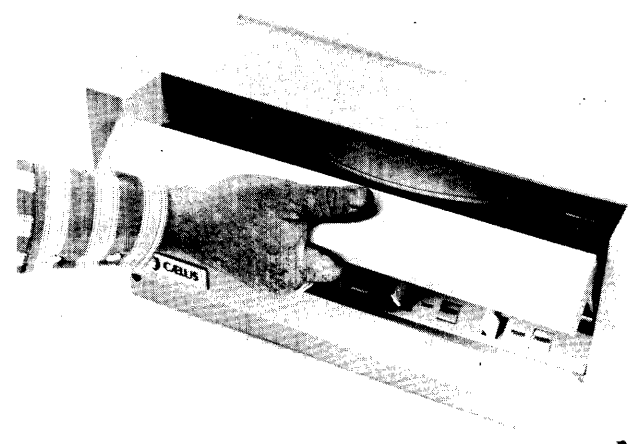
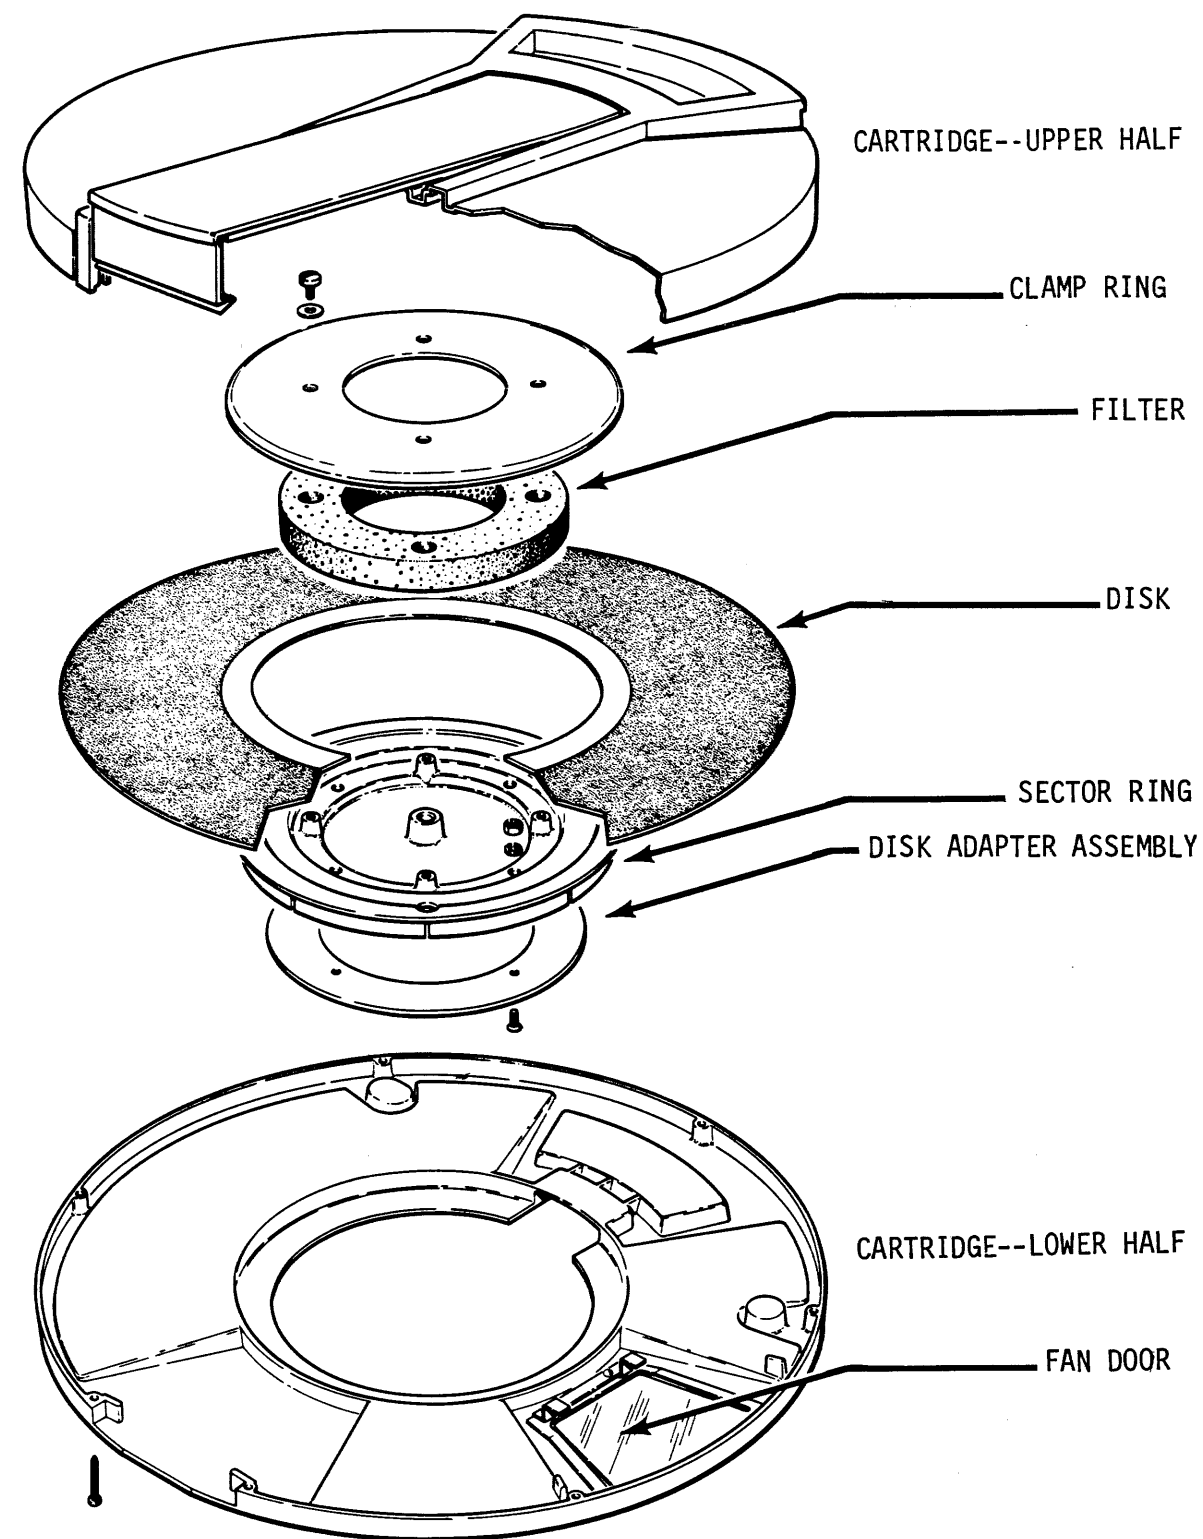

Figure 3-1. CMI Cartridge Loading Sequence
Figure 3-2. CMI Cartridge, Exploded View
- 3.3.1 The CMI cartridge utilized as the removable media in the Model 206 Series Disk Drives is loaded into the drive by pulling the cartridge receiver handle on the front of the drive down and inserting the cartridge into the mouth of the receiver. (See Figure 3-1.) Be certain that the cartridge is pushed all the way into the receiver, fully opening the head access door. Raise the receiver handle to the upright position, closing the door and seating the cartridge on the spindle. (An exploded view of the CMI cartridge is shown in Figure 3-2.)
Be sure that drive power is On, the Start/Stop switch is in Stop position and the Stop indicator is lit. This will allow the cartridge latch arms to be unlocked and retracted. (Refer to Figure 3-2 for cartridge loading procedures.)